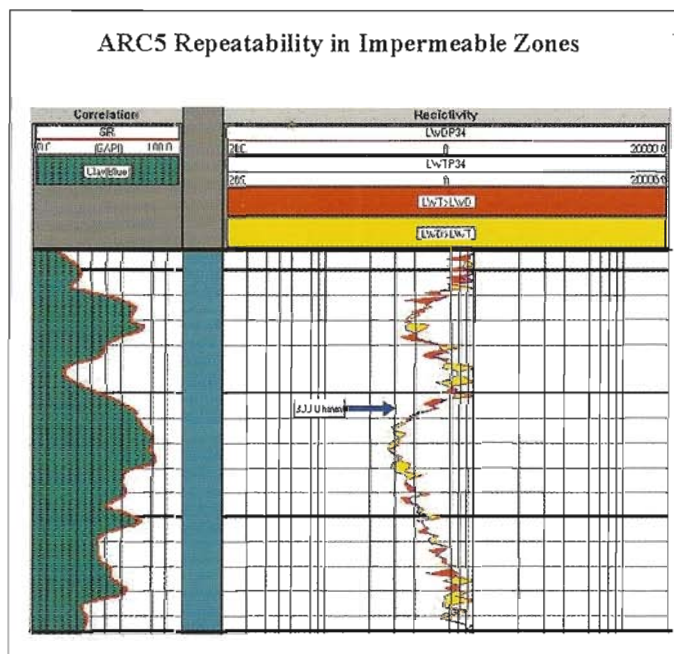

Figure 5.
- The ARC5 has proven to be capable of measuring resistivity effectively in this environment. Figure 5 is an example of the ARC5 run over shale and demonstrates the repeatability of the tool in a resistivity environment above 200 ohmm. The tool